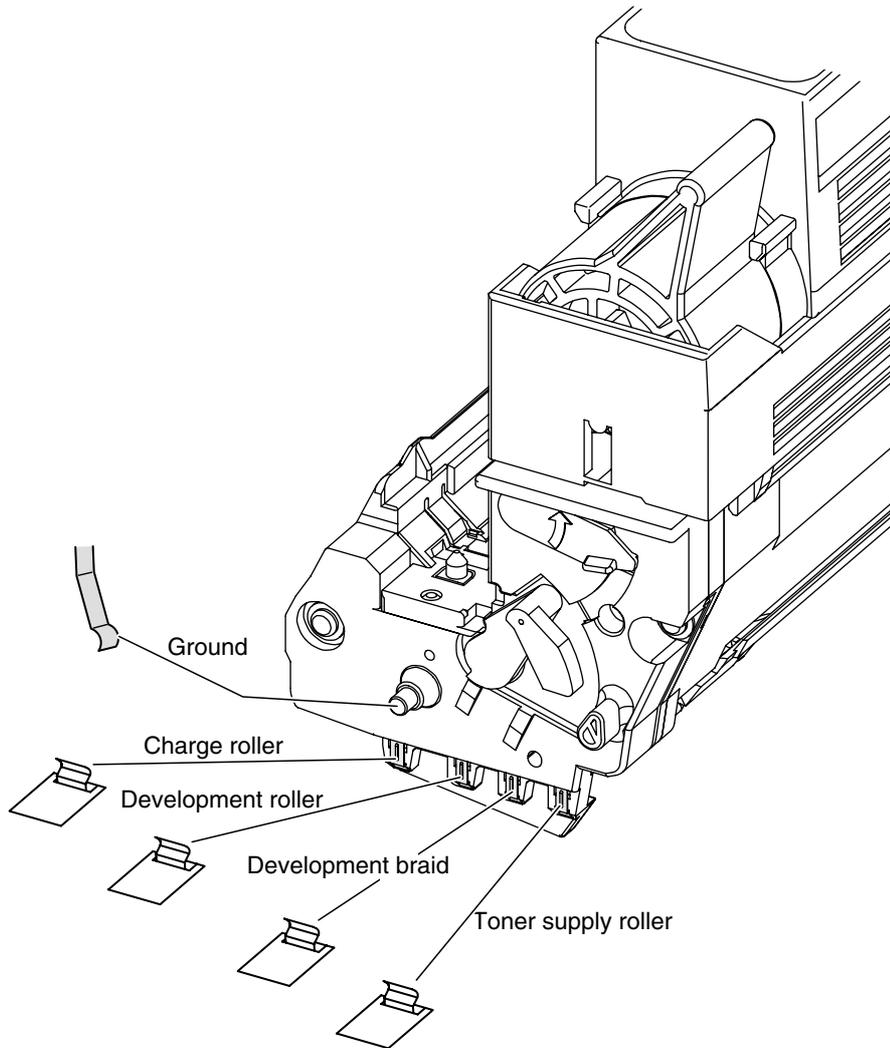

Figure 7-3
- ▼ NO Is the I/D unit terminal properly connected to the contact Assy? (Refer to Figure 7-3)
⑨ Color Drift
- ▼ NO Is the I/D unit terminal properly connected to the contact Assy? (See Figure 7-3)